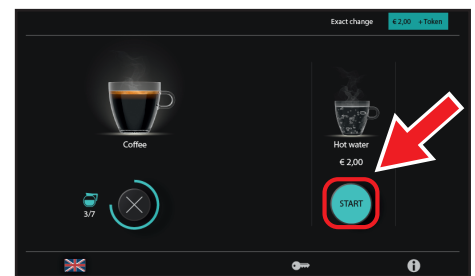

Figure 26.
6. While coffee and instant beverages are being poured, you can select hot or cold water (optional) by pressing the button on the right (Figure 26). The hot or cold water beverage will be served from the right-hand pouring spout. You can always stop hot or cold water beverages from being served by pressing the Stop button.
9. While coffee and instant beverages are being poured, you can select hot or cold water (optional) by pressing the button on the right. (Figure 26). The hot or cold water beverage will be served from the right-hand pouring spout. You can always stop hot or cold beverages from being served by pressing the Stop button.